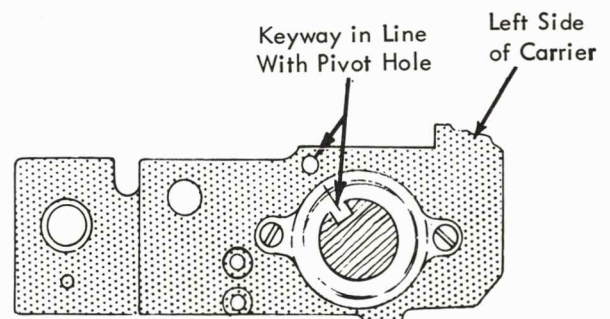

FIGURE 60. Preliminary Timing
1. Preliminary Print Shaft Timing - With the cycle shaft latched in its rest position, loosen the print shaft gear and rotate the print shaft so that the keyway is approximately in line with the end of the ribbon lift cam follower pivot screw (Fig. 60). The keyway will be about 45° to the rear from the top of the shaft.